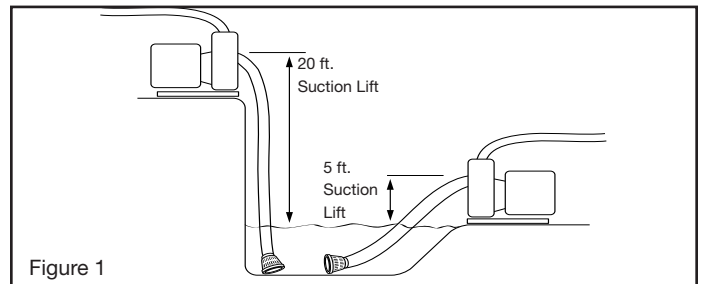

Figure 1
1. The pump SHOULD be placed as close as possible to the liquid being pumped. A pump with 20 foot suction lift will NOT remove water as quickly as a pump with 5 foot suction lift (Figure 1).